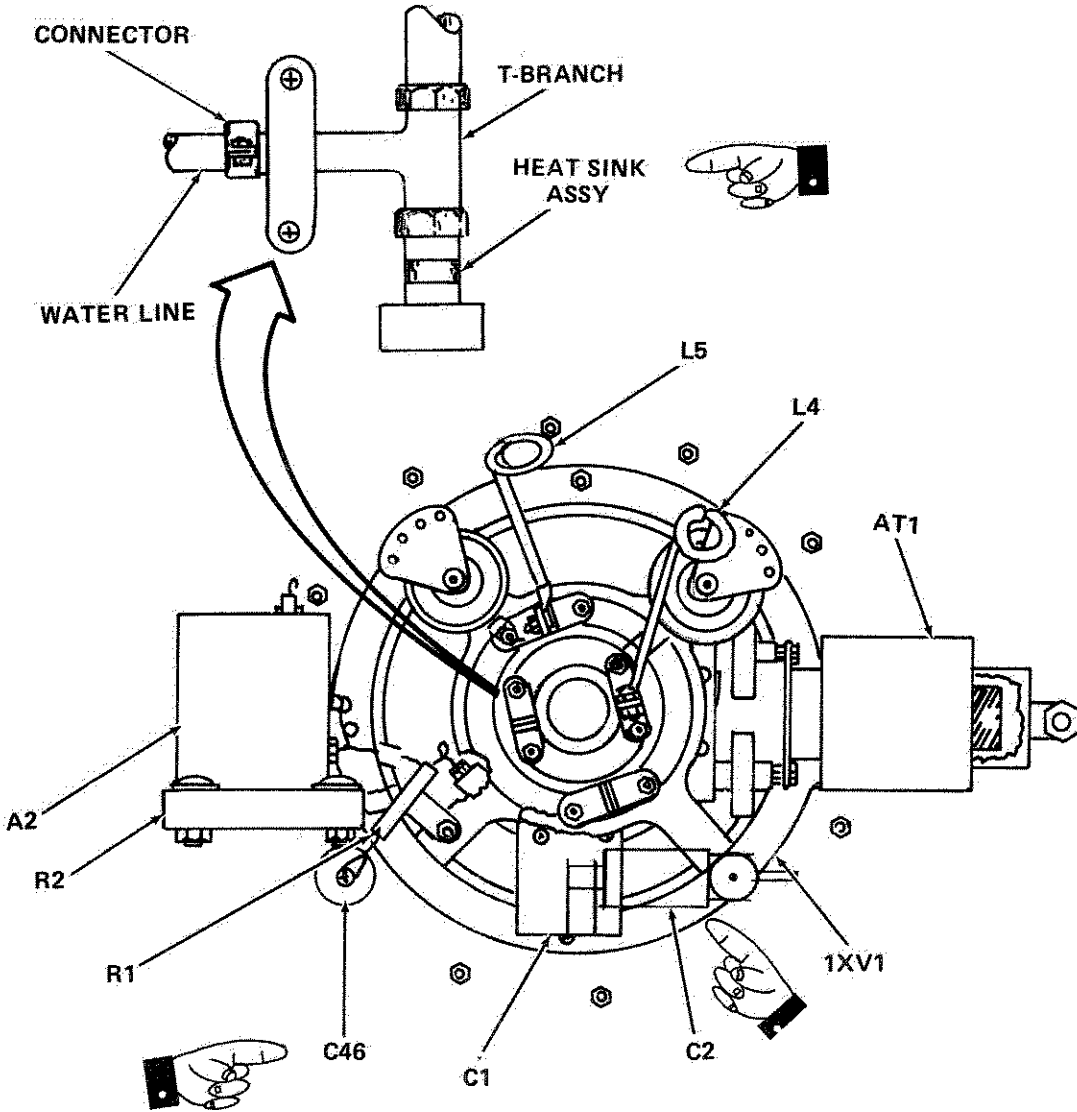

Figure 6-77. IPA Tube Socket 1XV1, Top View
5. Loosen water-line connector (Figure 6-77). Remove top screw from support bracket. Pull off heat sink assembly from tube and move out of way.